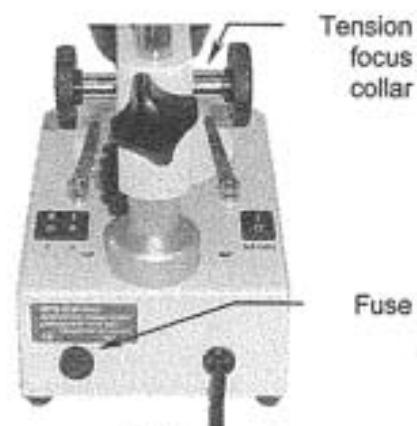

Fig. 5
- a. With a flat screwdriver, press lightly on the slot of the fuse cap (Fig. 5) and turn 1/4 turn as indicated by the arrow.
The tension adjustment collar for focussing (Fig.5) is situated between the focussing knob (13) and the head holder (11).
**NB:** In the model ST-37, the tension adjustment collar can be found between the focus knob (13) and the arm (15).